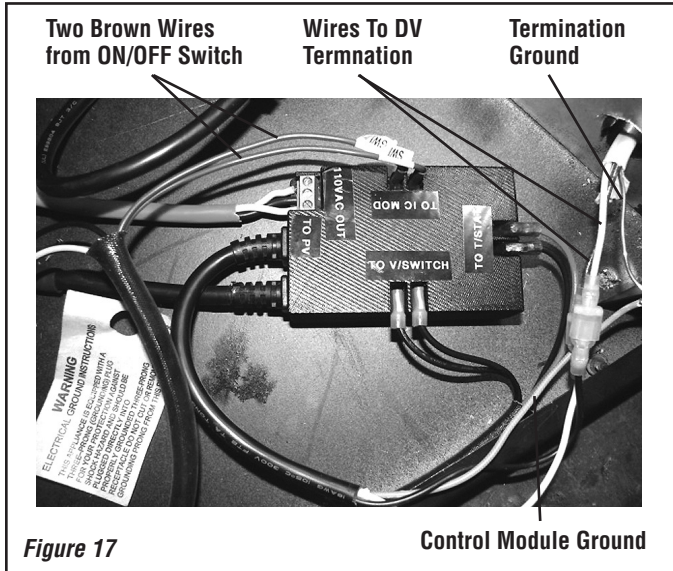

Figure 17
- 9A.5. Disconnect the two brown wires from the ON/OFF switch, and reconnect them to the control module [#4] (**Figure 17**).
9A.7. Connect one end of the **four-wire harness** [#2] to the **power vent control module** [#4] (Figure 17) — RED to T-STAT; BLACK to V-SWITCH.